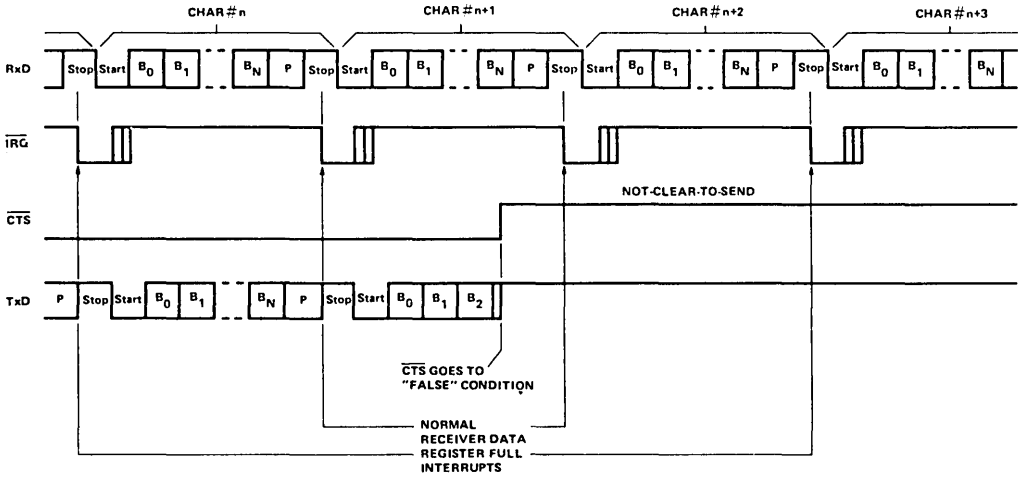

Figure 4-7. EFFECT OF CTS ON ECHO MODE
4.1.7 Effect of CTS on Echo Mode Operation (Figure 4-7)